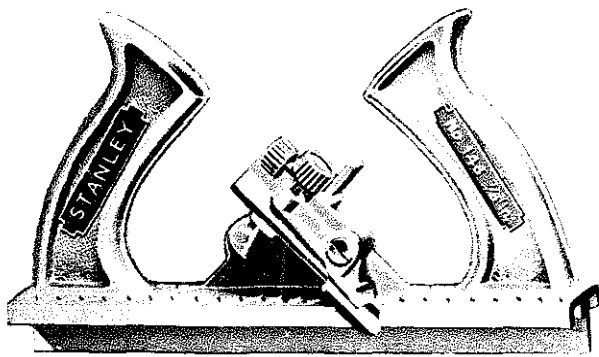

Fig. 8-67 Double end tongue and groove match plane.
- The *double end tongue and groove match plane* puts a tongue in the edge of one board and a groove in the edge of another. See figures 8-67, 8-68, and 8-69.